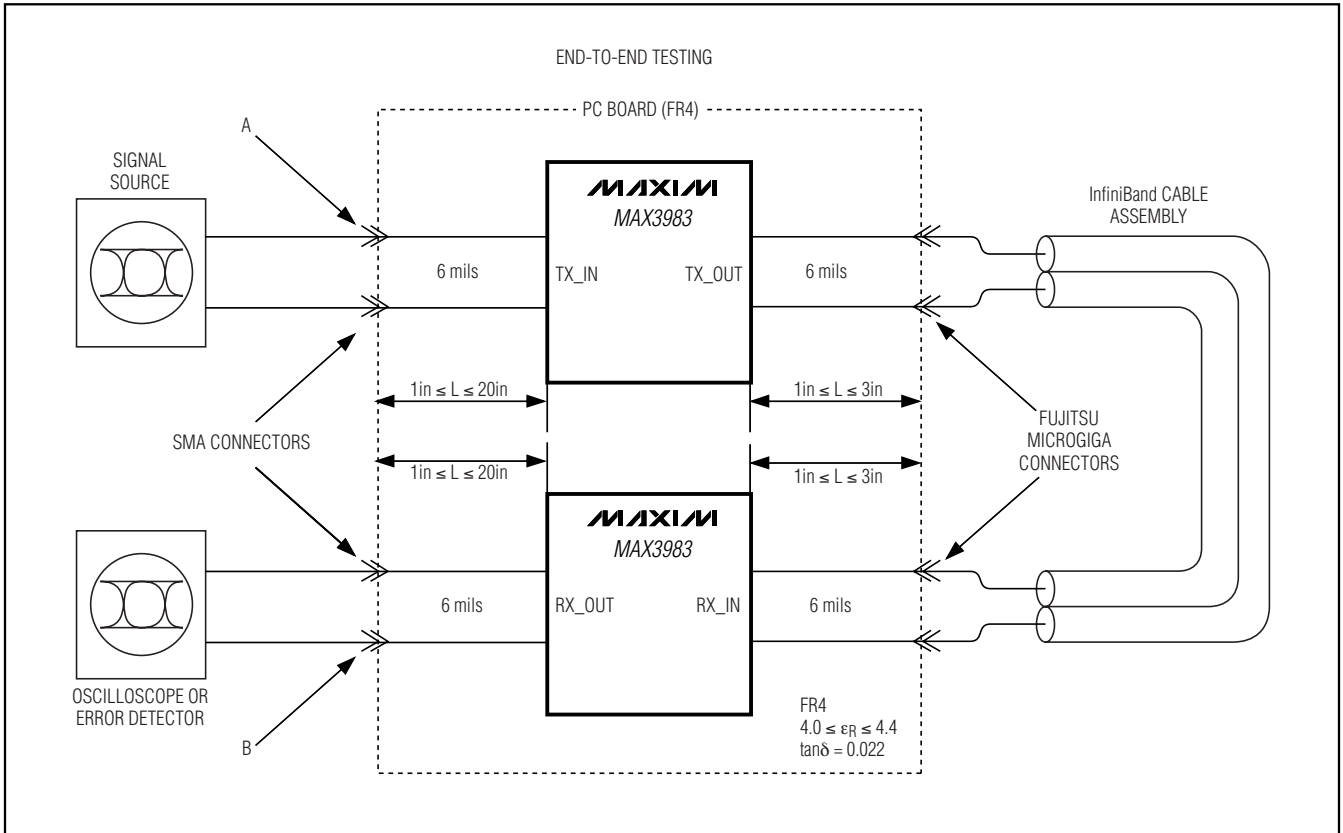

Figure 2. End-to-End Test Setup. The points labeled A and B are referenced for AC parameter test conditions.
- Note 5:** Cables are unequalized, Amphenol Spectra-Strip 24AWG and 28AWG or equivalent equipped with Fujitsu “MicroGiga” connector or equivalent. All other channels are quiet. Residual deterministic jitter is the difference between the source jitter and the output jitter at the load. The deterministic jitter (DJ) at the output of the transmission line must be from media-induced loss and not from clock-source modulation. Depending upon the system environment, better results can be achieved by selecting different preemphasis levels.
- Note 13:** Cables are unequalized, Amphenol Spectra-Strip 24AWG or equivalent equipped with Fujitsu “MicroGiga” connector or equivalent. Residual deterministic jitter is the difference between the source jitter at point A and the load jitter at point B in Figure 2. The deterministic jitter (DJ) at the output of the transmission line must be from media-induced loss and not from clock-source modulation. Depending upon the system environment, better results can be achieved by selecting different preemphasis levels.